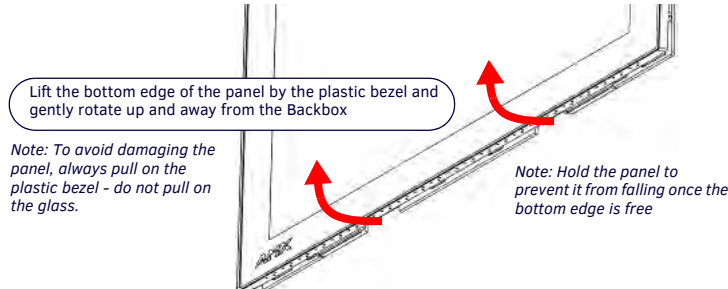

FIG. 7 ACB-2110/BACKBOX ASSEMBLY (RELEASING THE BOTTOM EDGE OF THE PANEL)
- Grasp the bottom of the panel and pull gently outward until the side of the panel is free of the snap. Use your other hand to stabilize the front of the touch panel (FIG. 7):